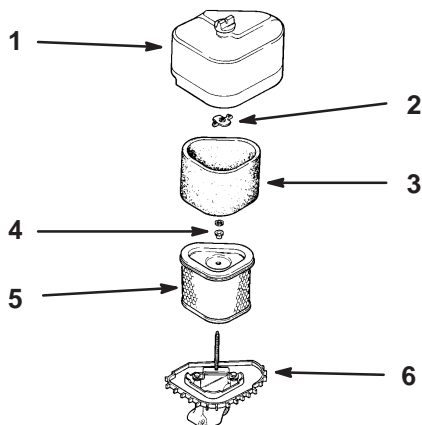

Figure 19
2. Clean around the air cleaner to prevent dirt from getting into the engine and causing damage. Unscrew the cover nut and remove the air cleaner cover (Fig. 19).
3. Remove the air cleaner assembly (Fig. 19).
4. Carefully slide the foam element off the paper element (Fig. 19).
1. Carefully slide the foam element onto the paper air cleaner element (Fig. 19).
2. Place the air cleaner assembly onto the air cleaner base (Fig. 19).